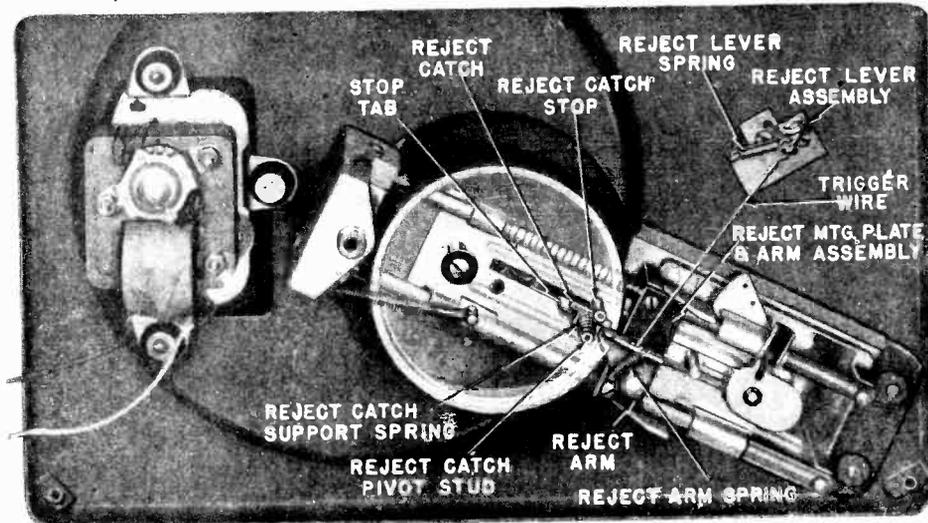

FIGURE 3.
7. REJECTING A RECORD. (See Figure 3.)
The reject button (26A) is located on the top of the arm of the push-off cam and shaft assembly. The distance traveled by the arm control plate (36) will depend on the size of the record being played; the distance is less for a 12-inch setting than for a 10-inch setting. (This is true because the push-off cam (42B) presents its short radius to the size change stop (36C) for the 10-inch setting and presents its long radius to the size change stop for a 12-inch setting). This variation in distance traveled means that the arm control track (36B) will be in a position closer to the centerpost for the 12-inch setting than for the 10-inch setting. This in turn means that during the change cycle the arm control pin (31A) [whose path is determined by the motion of the arm control assembly (31)] will leave its recessed position, and will ride along the "S" portion of the arm control track for the 12-inch setting and along the "L" portion for the 10-inch setting (See rest (26)). The parts used to provide push button rejection are shown in Figure 3.
Figure 3 shows the changer out of cycle, that is, when a record is playing. Note that the reject catch (62) engages both the stop tab on the arm control plate, and the reject arm (70). If the changer is allowed to finish playing the record, the stop tab on the arm control plate is withdrawn from behind the reject catch (62); the eccentric cam (61) is then pulled against the knurled roller (53) and the change cycle begins. However, when the reject button (26A) is pressed the reject trigger wire (86) pulls the reject arm (70) from behind the reject catch (62); the eccentric cam (61) is pulled against the knurled roller (53) and the change cycle begins.